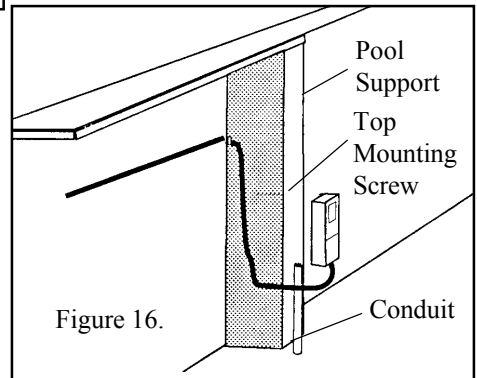
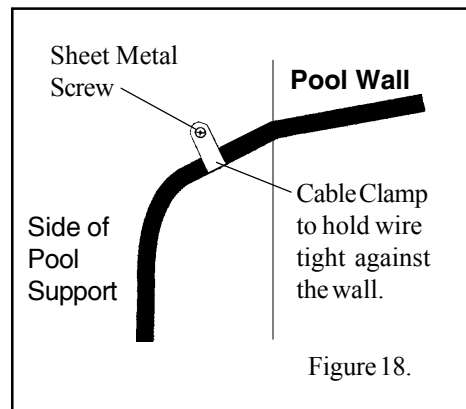

Figure 16.
Figure 18.
12. Mount the transformer box on a pool support approximately 18 inches above the ground, in a position accessible to electrical connection; see Figure 16. To mount the transformer junction box, insert one of the screws provided, to a pool support.
15. Using the cable clamp provided, attach the cable clamp to the cord and mount the cable clamp to the pool support, see Figure 18, so that the cord lies flush against the pool wall. Do not attach directly to the pool wall. This will keep the cord flush to the wall; see Figure 16.